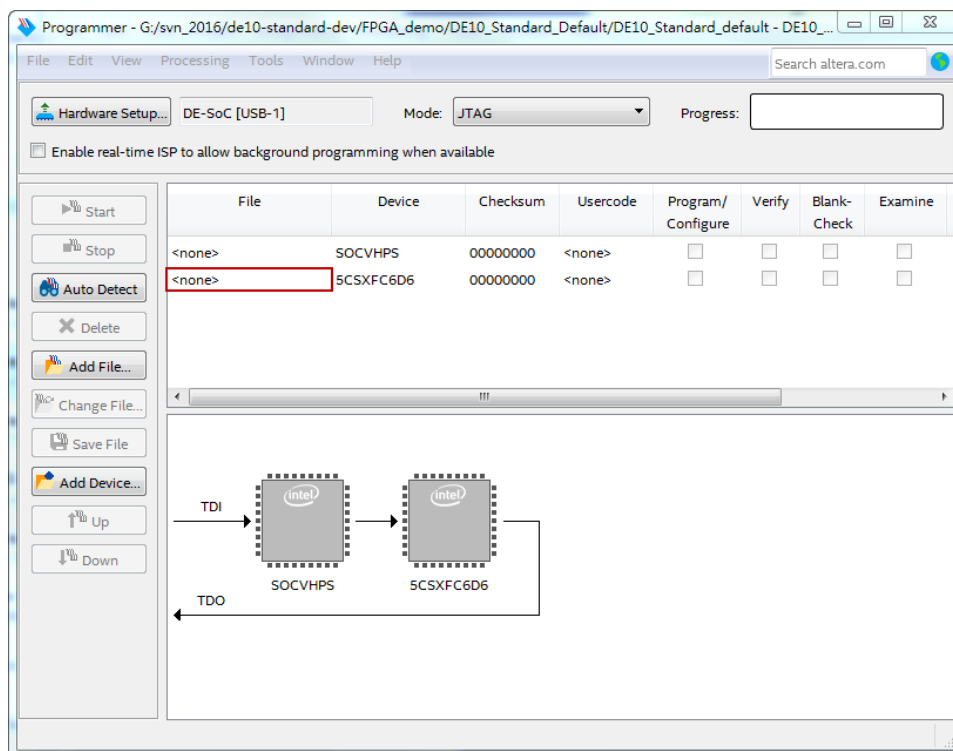

Figure 8-6 Two devices are detected in the Quartus II Programmer
3. Click **Auto Detect** and then select the correct device. Both FPGA device and HPS should be detected, as shown in **Figure 8-6**.
4. Double click the green rectangle region shown in **Figure 8-6** and the **Select New Programming File** page will appear. Select the .jic file to be programmed.
3. Click **Auto Detect**, and then select correct device, both FPGA device and HPS will be detected. (See Figure 8-6)
4. Double click the green rectangle region shown in Figure 8-6, and the **Select New Programming File** page will appear. Select the correct .jic file.